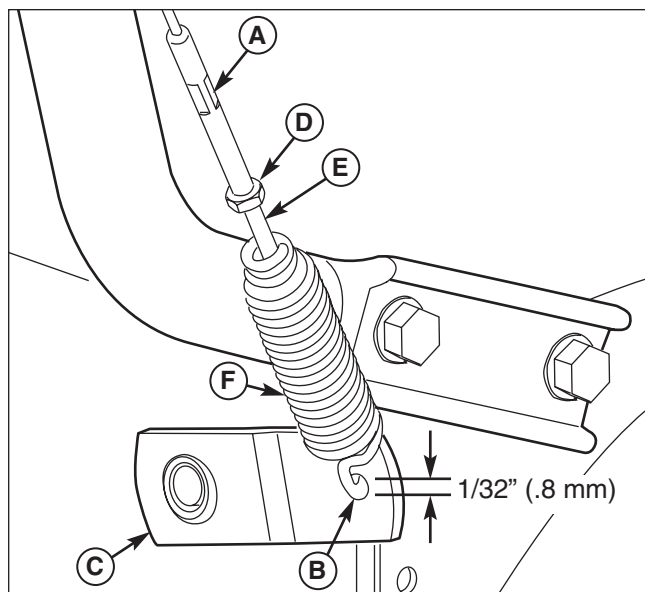

Figure 3. Auger Drive Adjustment
1. With the drive lever released, the hook (B, Figure 3) should barely touch the lever (C) without raising it. There can be a maximum 1/32" clearance as shown.
2. To adjust, loosen nut (D) by holding the adjusting flats (A) and turning nut (D). Turn adjustment flats and hold screw. The adjustment screw (E) is a phillips screw and the head can be held or turned by inserting a screwdriver through the spring (F).
3. Hold adjusting flats (A) and tighten nut (D).